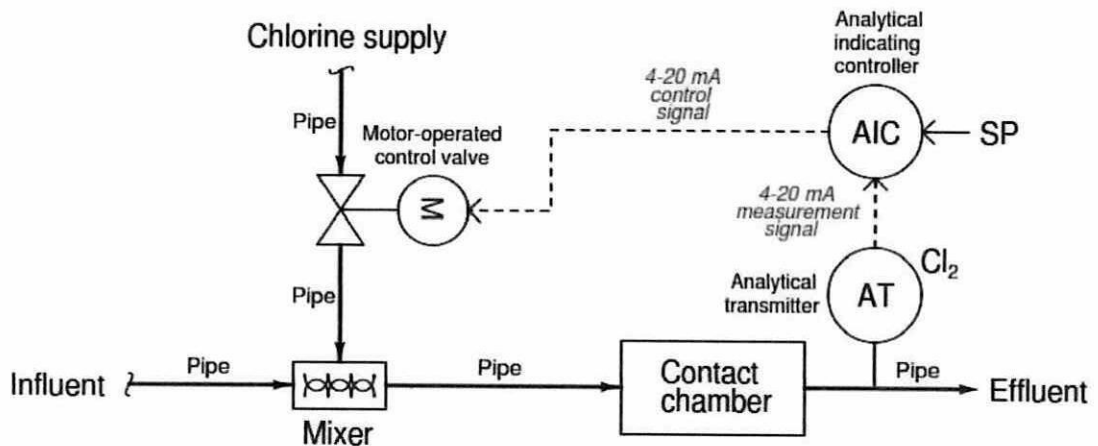

Figure Q1(a)
Q1 (a) Figure Q1(a) shows a waste water treatment control system.
- (i) Determine the controlled variable, manipulated variable and plant based on Figure Q1(a). (3 marks)
- (iii) Briefly discuss **two (2)** examples of disturbance that could affect the control system. (4 marks)